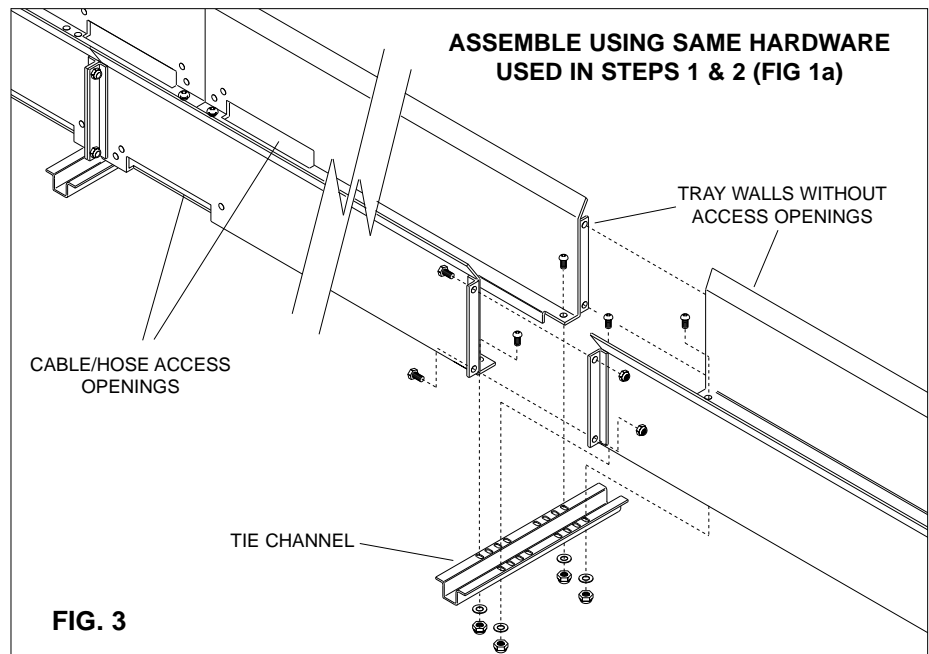

FIG. 3
STEP 4: Attach additional tray walls (without cable/hose access slots) and tie channels to each end of assembled tray sections. (See Fig 3). Typically, the quantity of tray sections extending from the access trays is equal in both directions. Short tray sections, if any, go at extreme ends. Consult the General Arrangement Drawing for correct overall length. As with other joints, **DO NOT** fully tighten screws at this time.